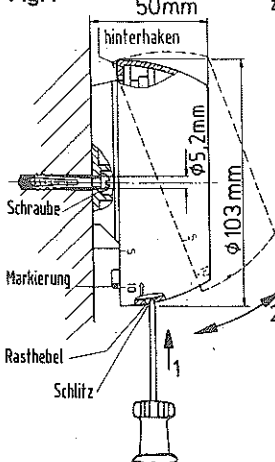

Fig. 2
- Make connections according to wiring diagram and fig. 2 insert the bared conductor until contact is made